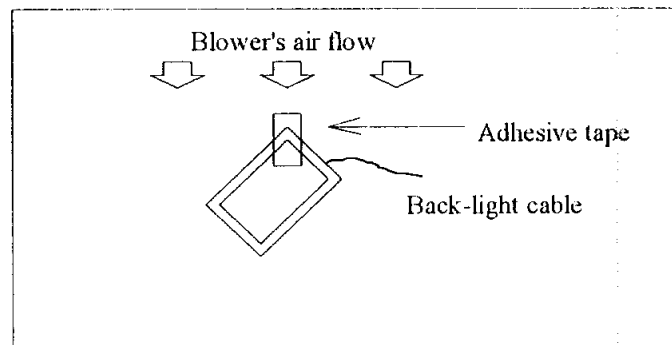

Fig. 2
- To protect the polarizing plate from possible damage, stick adhesive tape (plastic tape, etc.) on the corner of the lamination closest to the blower. (see Fig. 2)